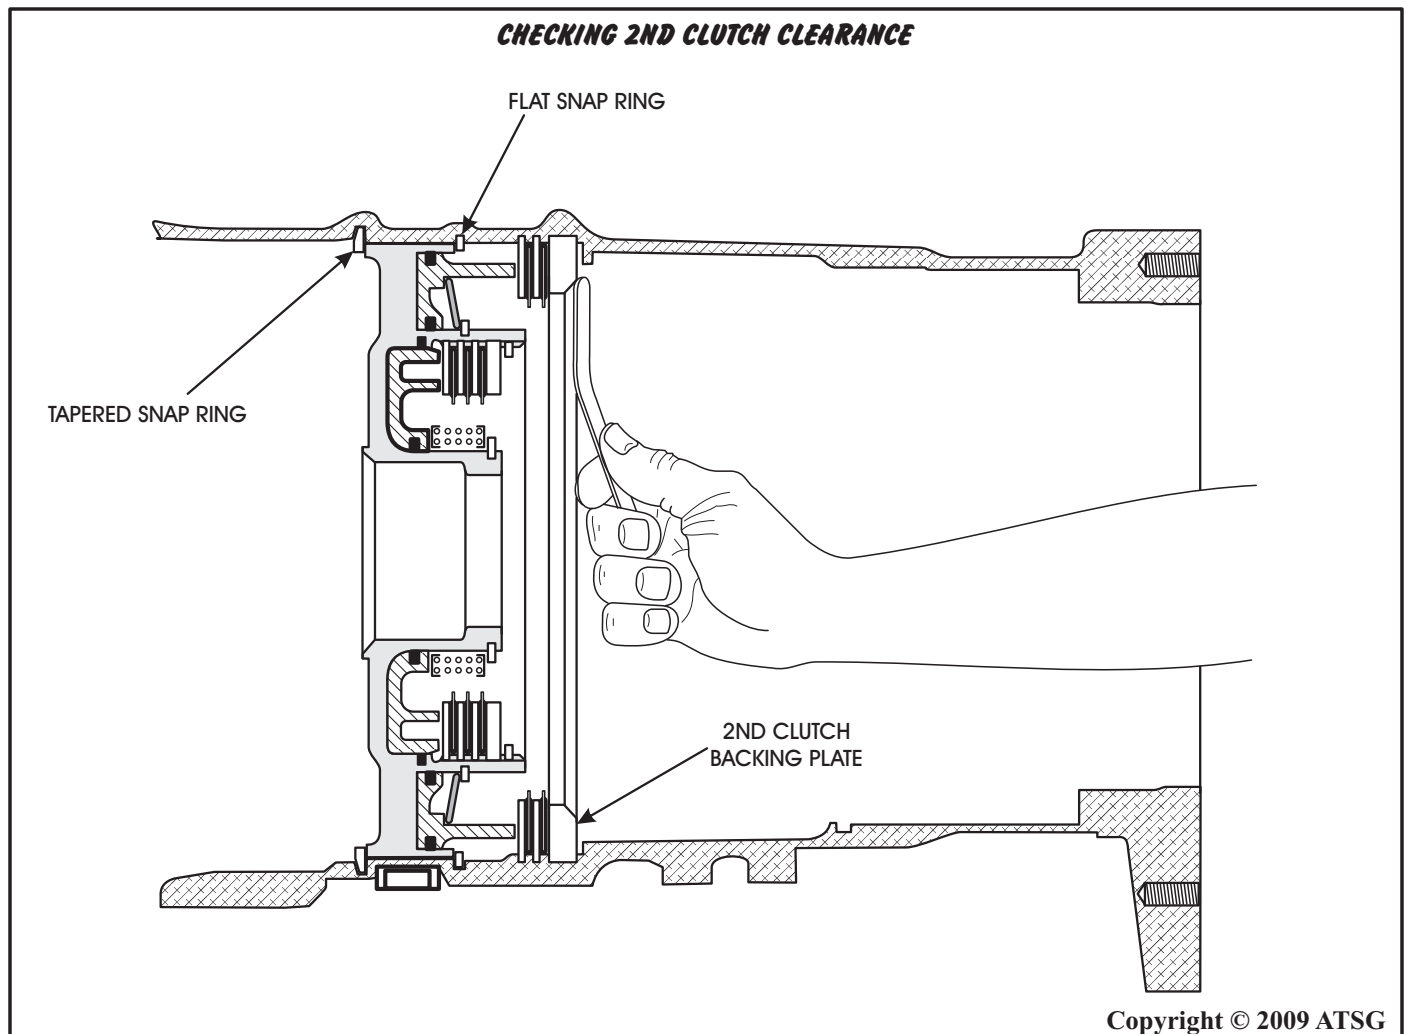

Figure 110
7. Using a feeler gauge through rear case opening, measure the 2nd clutch pack clearance between the 2nd clutch backing plate and the trans case at 4 different points 90 degrees apart, as shown in Figure 110.